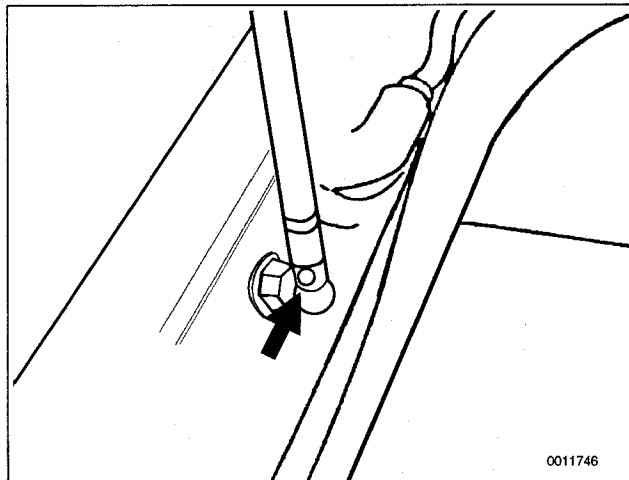

Fig. 4. Support strut spring clip (arrow) at body end.
1. Open trunk lid. Remove spring clip from support strut and remove strut from body end. See Fig. 4.